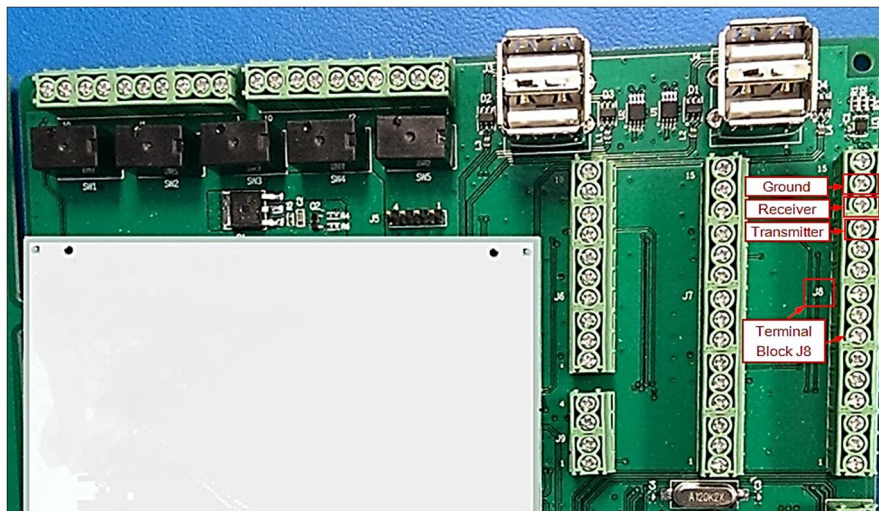

Figure 6 - iRMS terminal Block J8
3. Attach the other end of the Ground wire to Terminal Block J8, at location screw #14 (see Figure 6). For more information, refer to the CHCT manual.
5. Attach the other end of the Receiver wire to the iRMS Terminal Block J8, at screw #13 (see previous Figure 6).